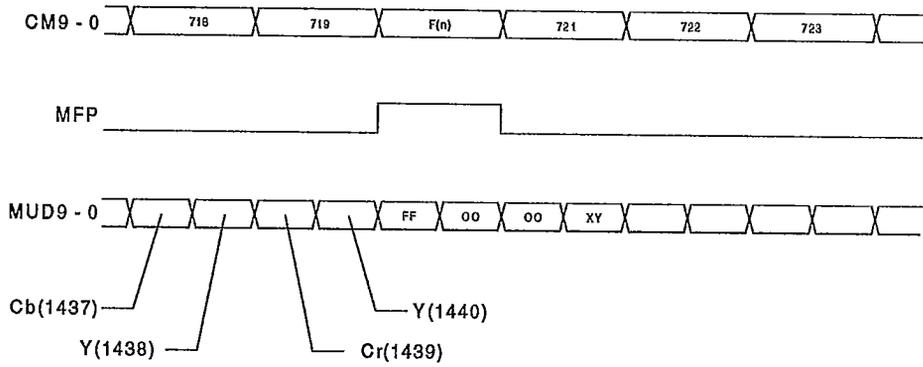

FIGURE 4
5. Output of Counter Value (CM9~CM0) (Fig. 4)